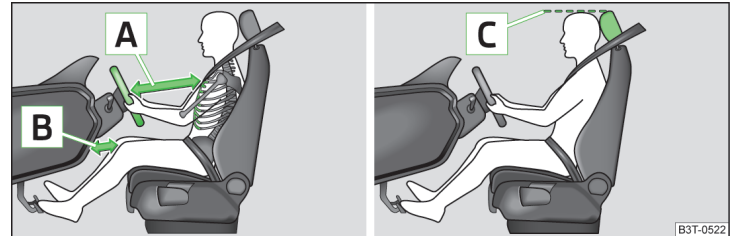

Fig. 1 Correct driver seating position / properly adjusted headrest
- ✓ For vehicles with driver knee air-bag adjust the driver's seat in a forward/back direction so that there is a gap of at least 10 cm between the legs and the dash panel in the vicinity of the knee airbag - B » Fig. 1.
- ✓ Adjust the steering wheel so that the distance A between the steering wheel and your chest is at least 25 cm » Fig. 1. Adjust the steering wheel » page 8, *Adjusting the steering wheel position.*
- ✓ Adjust the head restraint so that the highest point of the head restraint is at the same level as the upper part of your head C » Fig. 1.
- ✓ Adjust the head restraint so that the top edge of the head restraint is at the same level as the upper part of your head **C** » Fig. 1 on page 7.
- ✓ Adjust the head restraint so that the top edge of the head restraint is at the same level as the upper part of the head **C** » Fig. 1 on page 7.